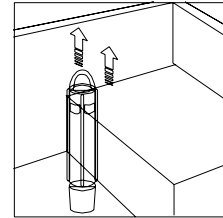

Fig. 13
- Raise hood and remove overflow tube to drain the unit (Fig. 13)